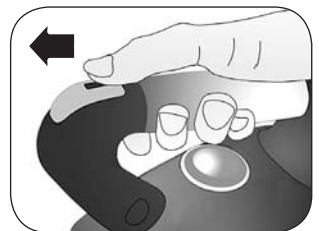

Fig. 7
- 6 To stop the continuous jet it is necessary to release the button (D). Push the cursor (E) forward (Fig 7).